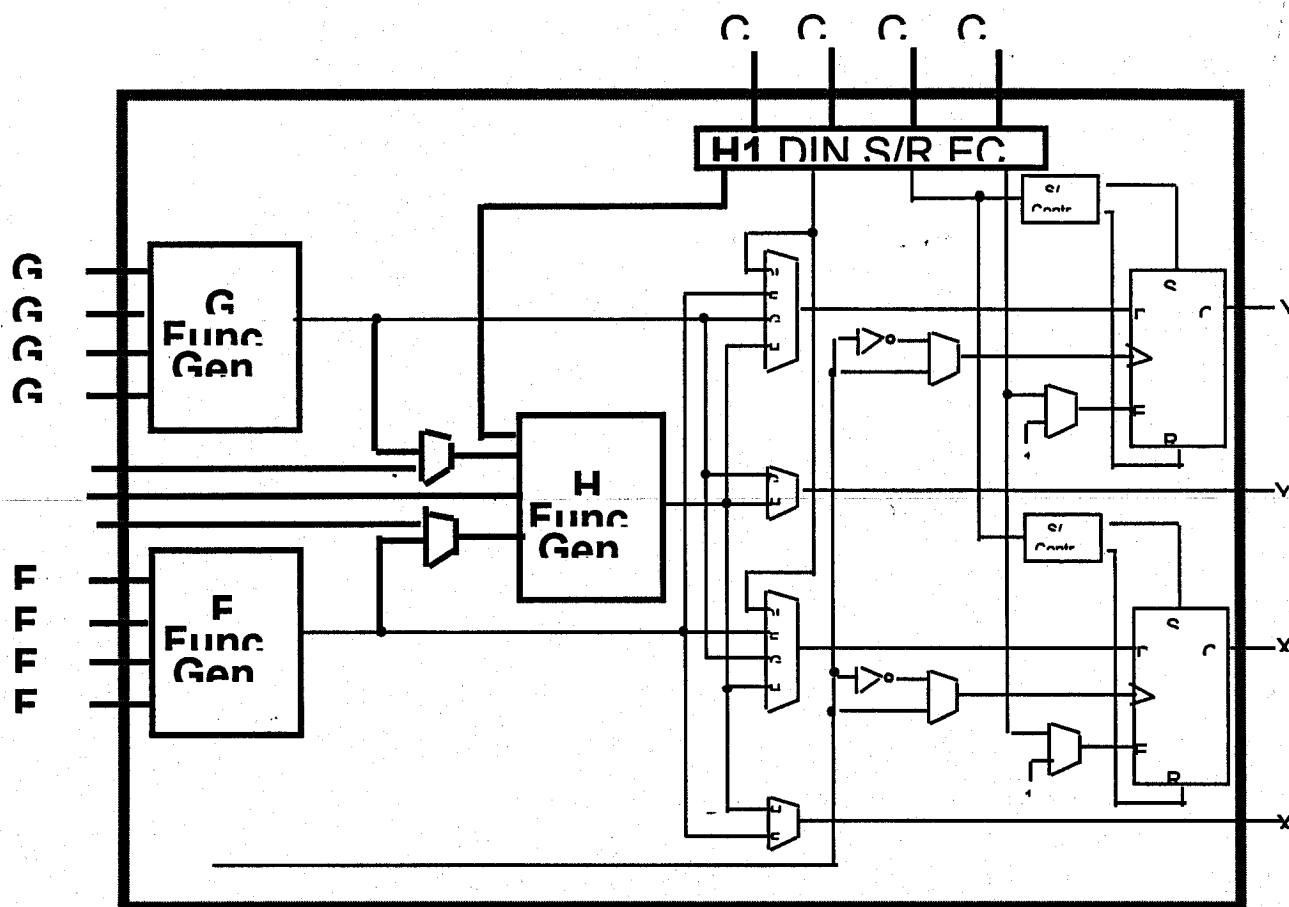

Figure 3a Xilinx XC4K FPGA Configurable Logic Block (CLB) Architecture
3. a) Figure 3a illustrates the Xilinx XC4k Configurable Logic Block architecture. List the main features of this element and explain how combinational and sequential logic can be implemented in a CLB (4 marks)